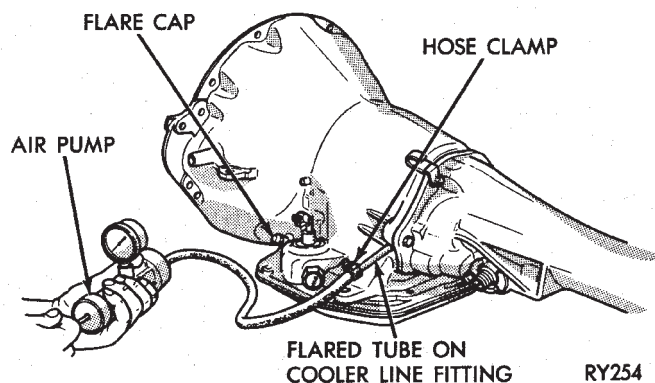

Fig. 13 Pressurizing Transmission
(2) Close off remaining transmission openings with rubber plugs, or stoppers or similar devices. **Do not close off rear cooler line fitting. Hand operated air pump will be attached to this fitting.**
(3) Attach Air Pump 7700 to rear cooler line fitting. Connect a length of copper tube to fitting. Then attach pump hose to tube with hose clamp (Fig. 13).
(4) Apply a thick soapy water solution to suspected leak areas.